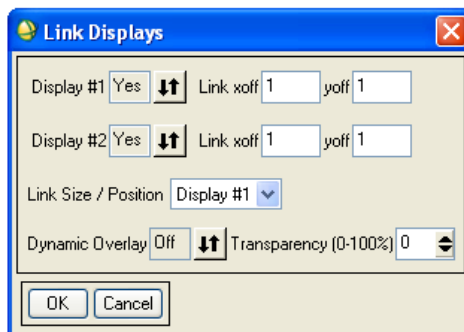

Figure 3. Link Display Dialogue Box
9. In the menu bar of the input image, select Tools, then link, then Link Displays. The Link Displays dialogue box opens (see Figure 3).